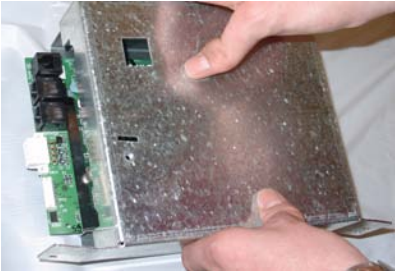

Figure 2-29. Install Main board housing w/Ethernet adapter cutout.
13. Install the Main board housing (panel with small cutout) over the back panel (Figure 2-29). Ensure the cutout aligns with the RJ-45 connector on the Ethernet adapter. Secure Main board assembly with screws removed in step 8.